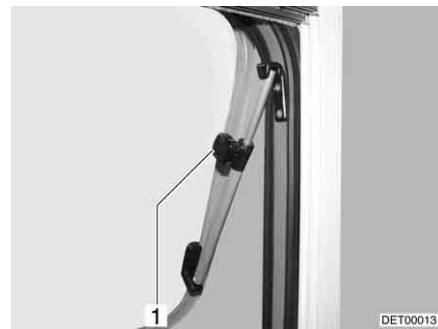

Fig. 97 Skylight with rotary hinges, open
- Open the skylight until the required position has been reached and use knurled knob (Fig. 97,1) to secure in position.
- Turn knurled knob (Fig. 97,1) until the latch is released.